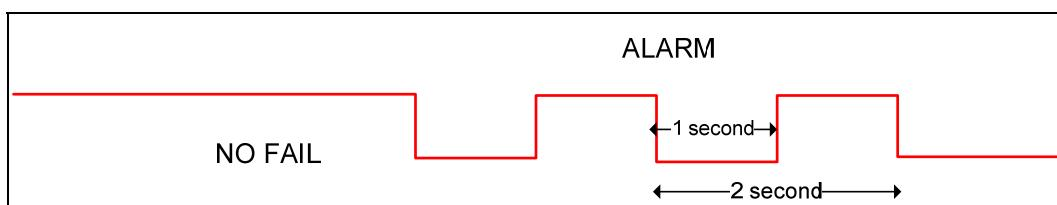

Fig. 5.6: FAIL signal timing
- FAIL LED lamps (timing described in Fig. 5.6)